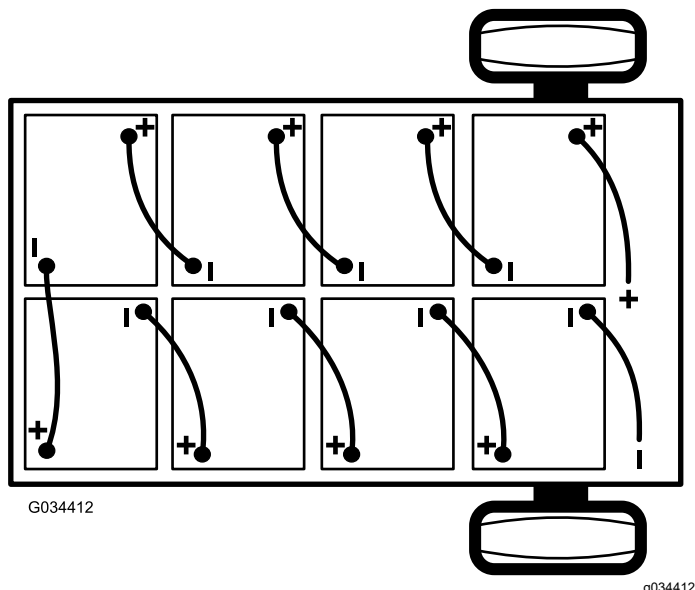

Figure 39
2. Disconnect the main negative-battery cable (black) that connects the bank of batteries to the ground point of the machine (Figure 39).
2. Connect the main positive-battery cable (red) between the bank of batteries and the machine (Figure 39).
3. Connect the main negative-battery cable (black) between the bank of batteries and the machine (Figure 39).
Note: Pay attention to the battery polarity when installing the new batteries (Figure 39).
6. Connect the batteries together as shown in Figure 39 with the battery-interconnect cables that you removed in step 1.